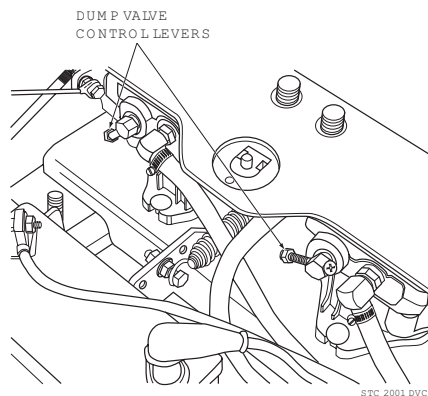

Figure 4-2. Dump Valve Control
11. Dump Valve Control Levers (Figure 4-2). Located on the hydraulic pumps, used to "free-wheel" the mower. Rotating the levers clockwise until they stop allows the unit to move under hydraulic power. The levers must be in this position and torqued to 10ft/lbs during operation of the mower. Rotating the levers counter-clockwise allows the mower to be moved by hand (free-wheeling).